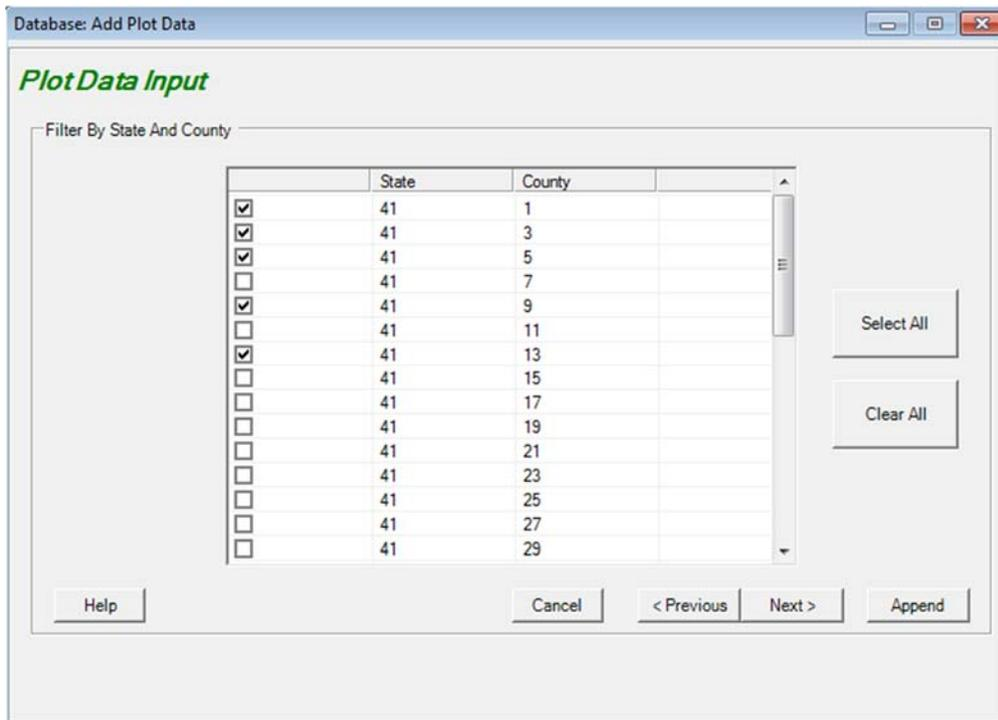

Figure 2.10 – Filter by county.
- III. On the **Filter by State and County** form, select desired counties (counties in only one state can be displayed for any given load operation) (see Figure 2.10). Click **<Append>** to add all plots within the selected counties. Alternatively, select specific plots within the chosen state(s) and counties, by clicking the **<Next>** button to display the **Filter by Plot** form.